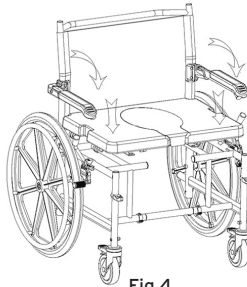

Fig.4
- Place the seat on the wheelchair frame and press down to fix its position, then add the cover (Fig.4);